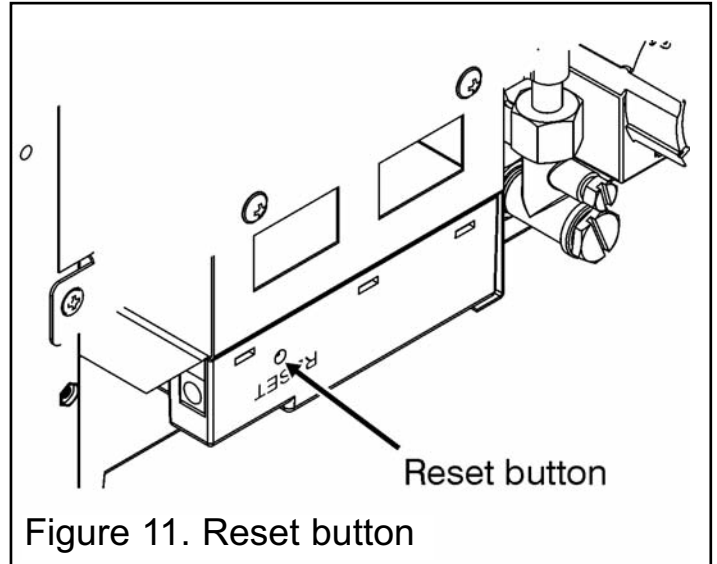

Figure 11. Reset button
Press and hold the reset button on the receiver (See figure 11) until you hear two (2) acoustic signals. After the second, longer acoustic signal, release the reset button.